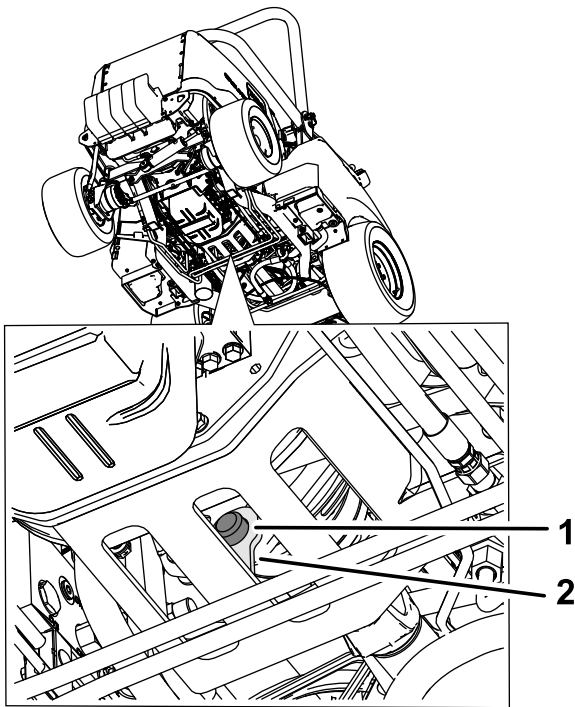

Figure 74
4. Remove the rubber bumper from the metal retainer and clutch (Figure 74).